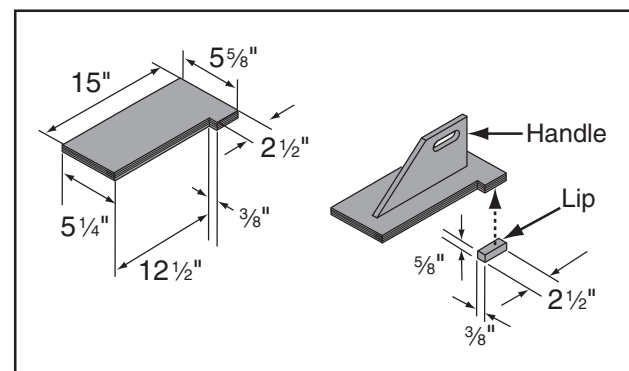

Figure 105. Push block dimensions and construction.
3. Using the $\frac{3}{4}$ " material you used in the previous steps, cut out pieces for the push block per the dimensions shown in **Figure 105**; for the handle, cut a piece 10" long by 5"–9" high and shape it as desired to fit your hand.